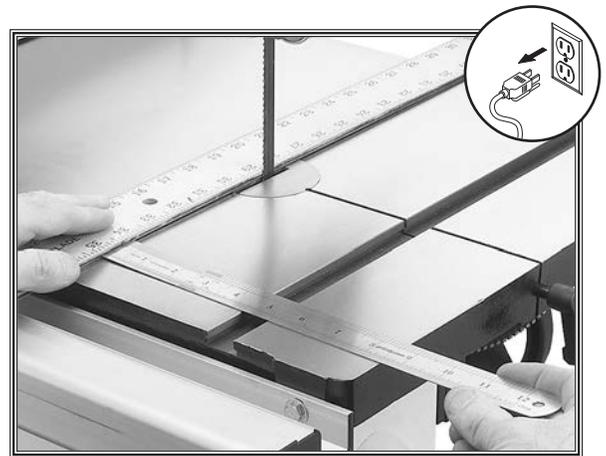

Figure 21. Taking measurements for aligning the table with the blade.
3. Place an accurate straightedge along the blade. The straightedge should lightly touch both the front and back of the blade without resting on a tooth (see **Figure 21**). Take care not to move the blade in this step.